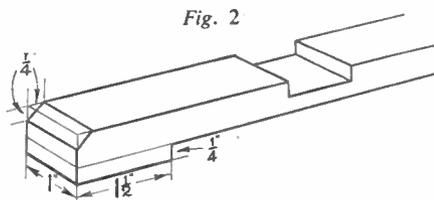

Fig. 2
The flange on which the lampholder is screwed is shown at (C) in Fig. 2. This is screwed to the top of the column. The electric flex is pushed up the centre column and connected to the lampholder. To complete the lamp, a plug or bayonet adaptor is fitted to the other end of the flex.